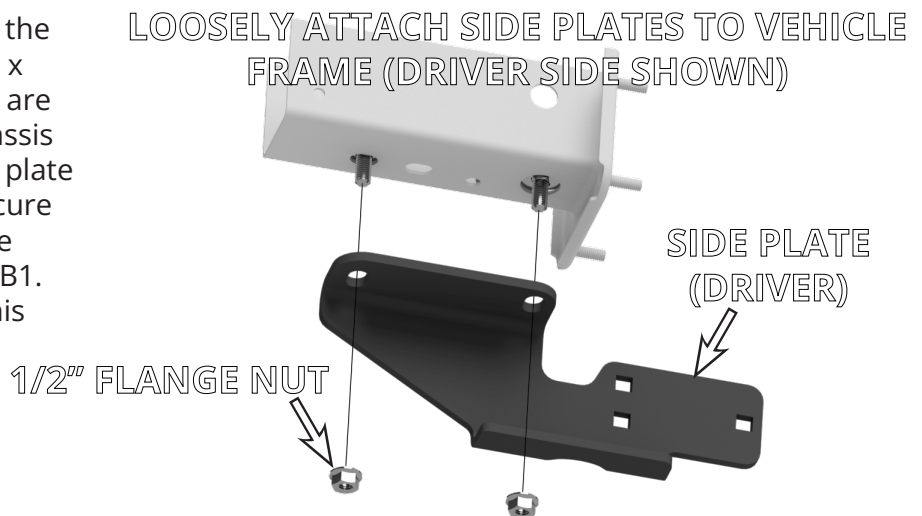

FIGURE B1: VIEW OF DRIVER SIDE PLATE INSTALL
5. Attach each side plate to the vehicle using the two 1/2 x 1-1/4" carriage bolts that are positioned inside the chassis channels. Pass each side plate up over the bolts and secure them with two 1/2" flange nuts, as shown in Figure B1. Loosely attach bolts at this time.